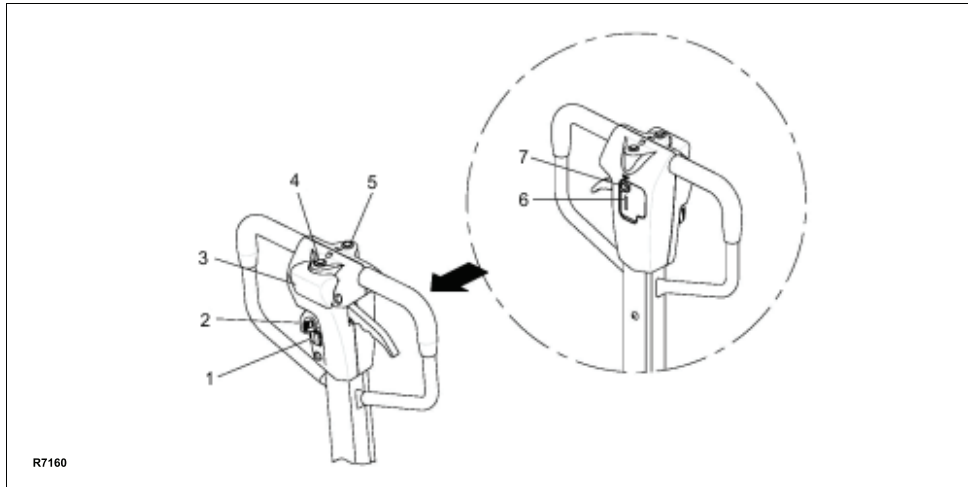
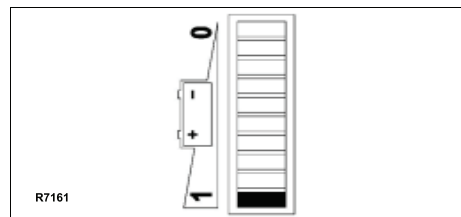
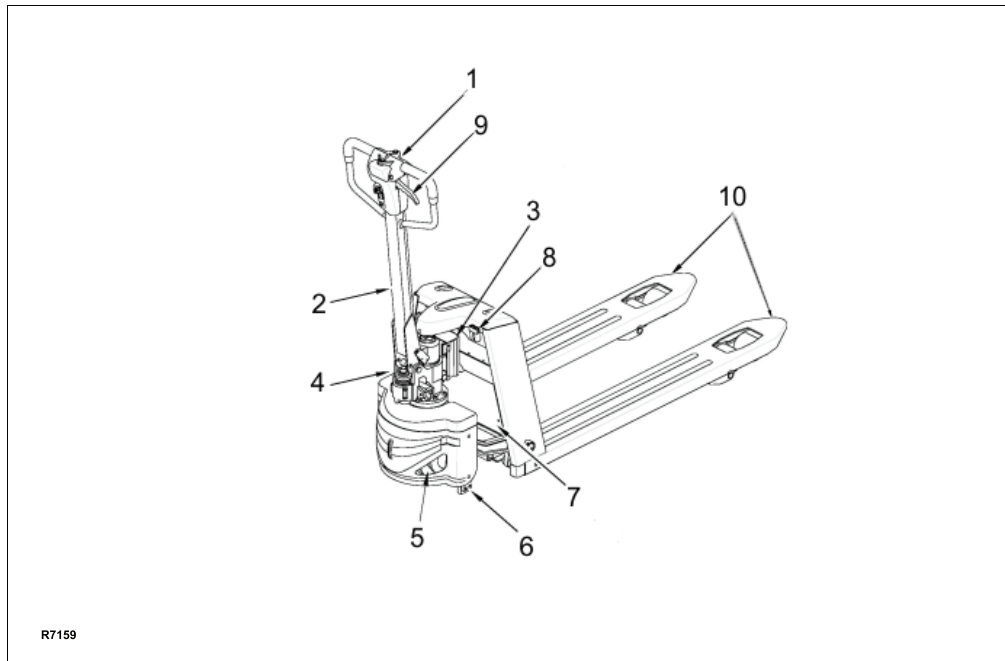

Figure 2-2 P33 Pallet Lift Truck
Figure 2-3 Battery Indicator
Figure 2-4 P33 Pallet Lift Truck
The power button (1, Figure 2-2) is used to switch control current on and off.
The optional key switch is (2, Figure 2-2) has two positions, ON and OFF. Removing the key prevents use by unauthorized personnel.
The belly-button button (3, Figure 2-2) minimizes the possibility of the driver being pinned by the steering arm. If the switch presses against the operator while the lift truck is being driven toward the operator, the switch changes the direction of the lift truck.
The forward button (5, Figure 2-2) and the reverse button (4, Figure 2-2) provide fingertip control for driving the truck.
When the key switch is turned on the battery charge indicator (6, Figure 2-2) displays the battery status. The colors of the LED represent the following conditions Figure 2-3:
The horn button (7, Figure 2-2) located on the front of the control head activates the horn.
1. Turn on the power switch (1, Figure 2-2) and the optional key switch (2). Grasp the grips of the steering head so that the forward and reverse controls can be comfortably operated by either thumb.
3. To move forward (with load in front), slowly press the forward button (5, Figure 2-2).
4. To change directions or to stop the truck, press the reverse button (4, Figure 2-2). The truck will come to a stop and then, unless the button is released, accelerate in the opposition direction.
Pull out the battery disconnect (8, Figure 2-4). All electrical functions are cut out and the brake is applied.
When the control handle (2, Figure 2-4) is released, it will automatically return to the vertical position and the brake will apply.
When the travel button (4 or 5, Figure 2-2) is released, the truck automatically brakes regeneratively. Once the truck slows down the brake then fully applies.
Press the opposite direction travel button (4 or 5, Figure 2-2). The truck brake regeneratively until it starts to move in the opposite direction.
When finished with moving loads, return the truck to its maintenance or storage area. Turn off the power switch (1, Figure 2-2) and optional key switch (2) and remove the key. Disengage the battery disconnect (8, Figure 2-4). Charge batteries as necessary. Refer to battery care instructions, SECTION 3.